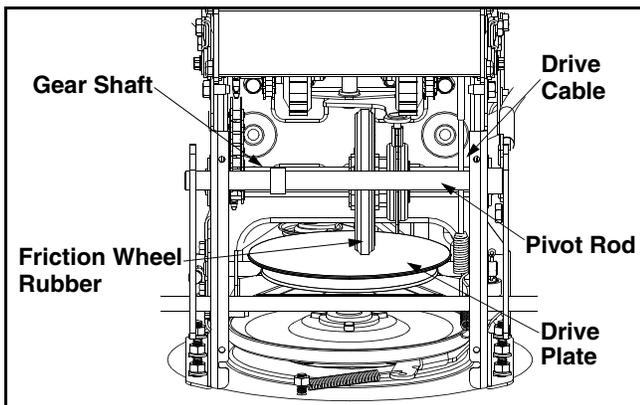

Figure 11
- With the drive control released, there must be clearance between the friction wheel and the drive plate in all positions of the shift lever. See Figure 11.
- With the traction control lever engaged, the friction wheel must contact the drive plate. See Figure 11. If adjustment is necessary:
Lubricate at least once a season or after every 25 hours of operation. Remove the rear cover, lubricate any chains, sprockets, gears, bearings, shafts, and shifting mechanism at least once a season. Use engine oil or a spray lubricant. **Avoid getting oil on the friction wheel rubber and aluminum drive plate.** Refer to Figure 11.
Lubricate the gear shaft with 6-n-1 grease at least once a season or after every 25 hours of operation (available at automotive stores, or order part number 737-0170). Refer to Figure 11.